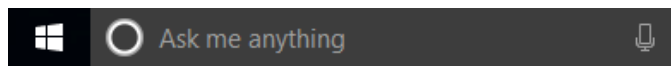

Figure 85 Windows 10 search box
2. Open **Device Manager** by typing "Device Manager" in the search box on the Windows 10 taskbar (Figure 85).